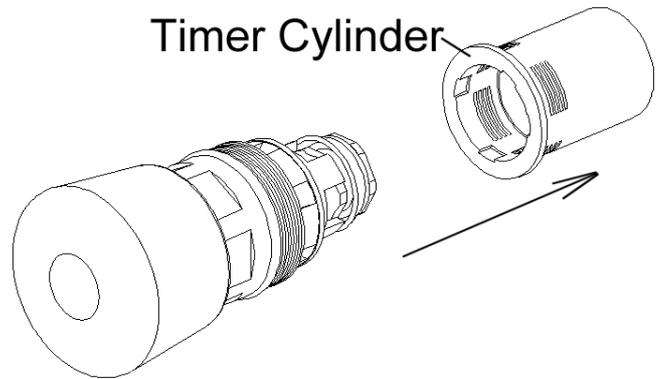

Fig. 9
4) Remove the timer cylinder (it pulls off the cartridge as shown in Fig. 9) and rinse it out thoroughly in clean running water, using soap and a toothbrush if required. **Do not** use any abrasives on the cylinder or the cartridge may be irreparably damaged.